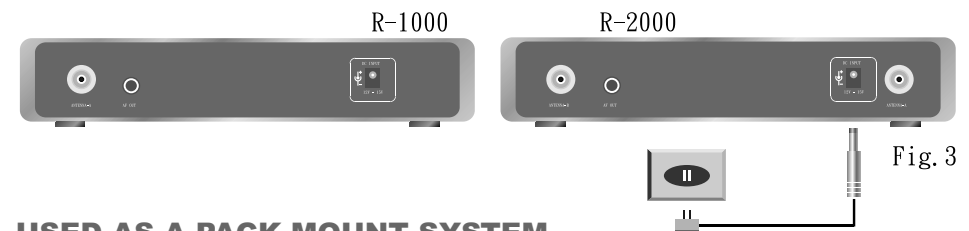

Fig. 3
2.Connect a power adapter to the DC power supply input socket ⑦ then plug the adapter to an appropriate AC outlet with caution to the correct voltage under both AC outlet and adapter marked. as shown in Fig. 3.